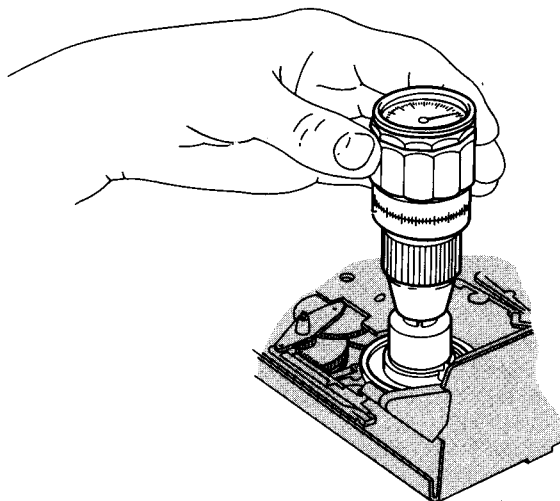

Fig. 2-4
- The torque in a clockwise direction should be between 1.3 and 1.6 mNm (13.0 and 16.0 gFcm). Do not let the weight of the torque meter bear on the turntable (Fig. 2-4).
- Using the torque meter on the left hand supply reel turntable Fig. 2-4 rotate the flywheel of the combi motor clockwise until the reading is stable, it should be between 2.8 and 3.8 Ncm (280 and 380 gFcm).